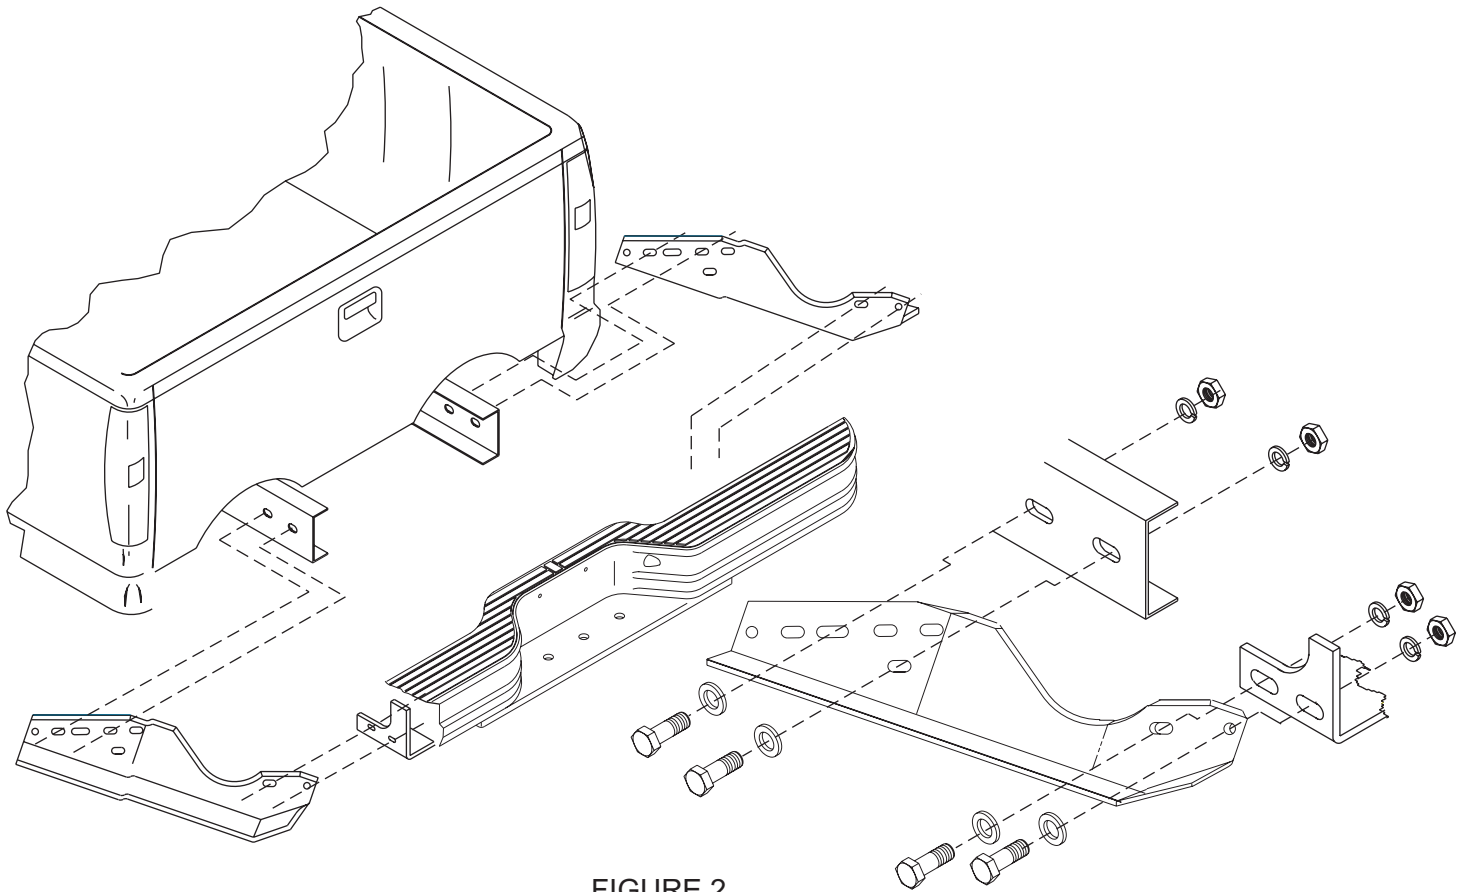

FIGURE 2
- STEP 2: Install bumper onto mounting brackets with brackets outside of bumper hitch. See figure 2. Use remaining 1/2 inch hardware. DO NOT TIGHTEN at this time.